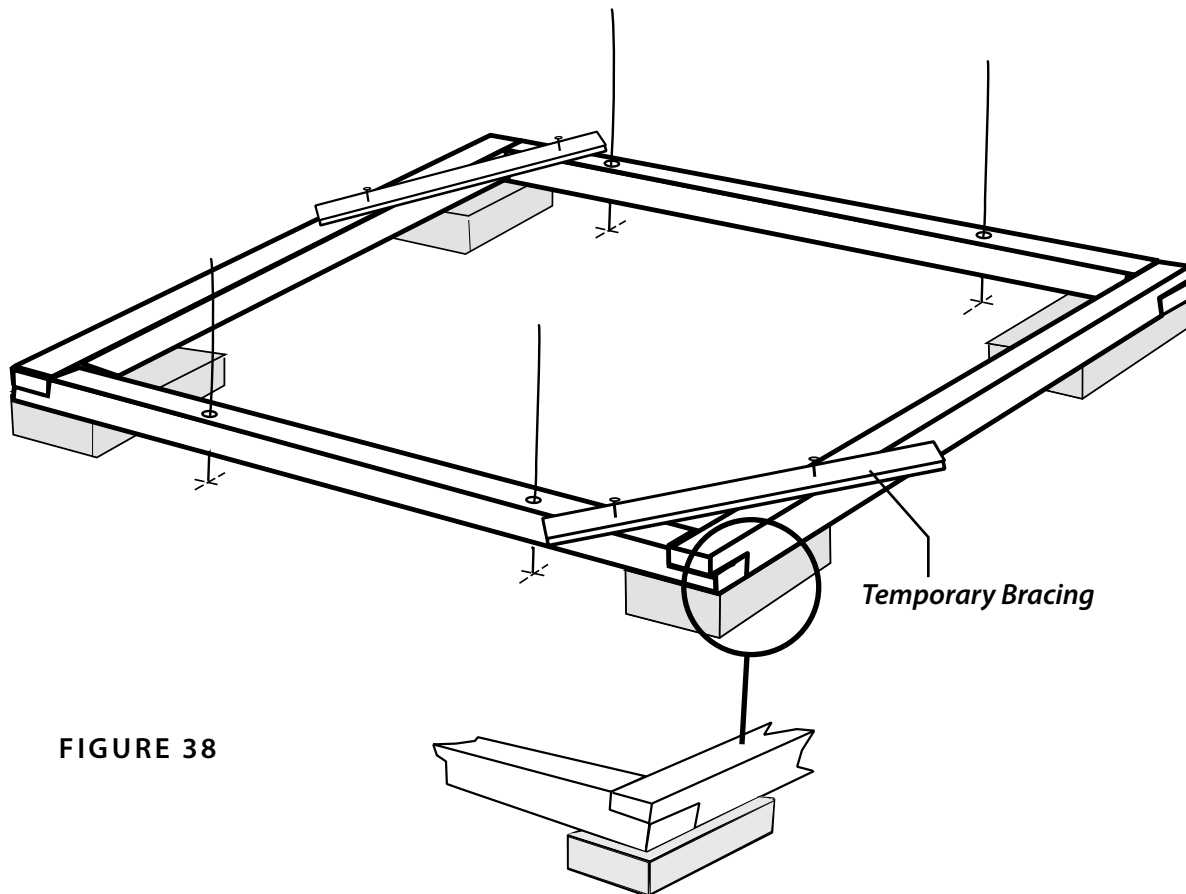

FIGURE 38
3. Measure across opposing corners and adjust until all are equal. Using scrapwood, apply temporary braces at opposite corners to maintain alignment. Complete the corner nailing using three (3) additional nails in each corner.
4. insert the Drive Rod through the pre-drilled hole in the Sill and into a Cable Anchor as illustrated in Figure 38. Drive the Cable Anchor at least 18" into the soil. Be sure to leave at least 30" of Cable above the Sill.